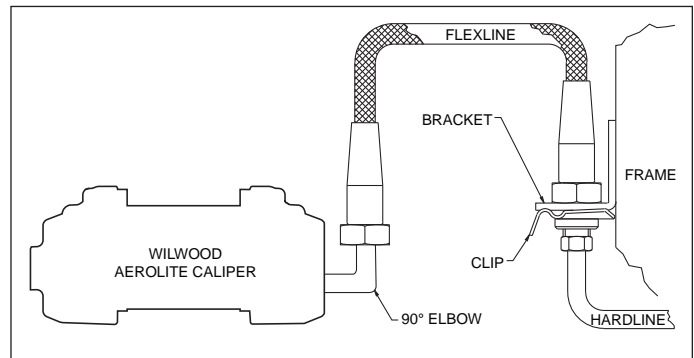

Figure 4. Brake Line Diagram
•**NOTE:** The caliper in this brake kit utilizes a 1/8-27 NPT pipe thread inlet. OEM rubber brake hoses generally cannot be adapted to Wilwood calipers. Wilwood offers a brake flex line hose kit to fit this application, order P/N 220-8176 for 1997-2004 (C5), or P/N 220-9100 for 2005-2013 (C6), Figure 4. Hose kit includes hoses, fittings, etc., all in one package for this application. **Carefully route hoses to prevent contact with moving suspension, brake or wheel components.** **NOTE:** Wilwood hose kits are designed for use in many different vehicle applications and it is the installer's responsibility to properly route and ensure adequate clearance and retention for brake hose components.